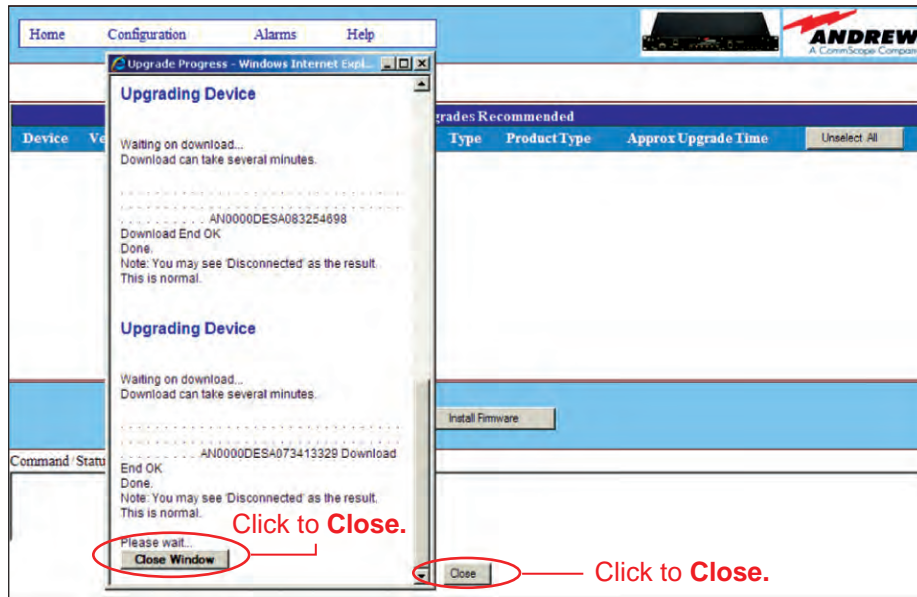

Figure 10-5. Upgrade Progress Screen.
- Firmware updates are applied to the selected devices individually. The **Upgrade Progress** window tracks the progress as each update is applied (Figure 10-5). After a device updates, it is no longer listed on the screen. Click on **Close** after updates have been installed.